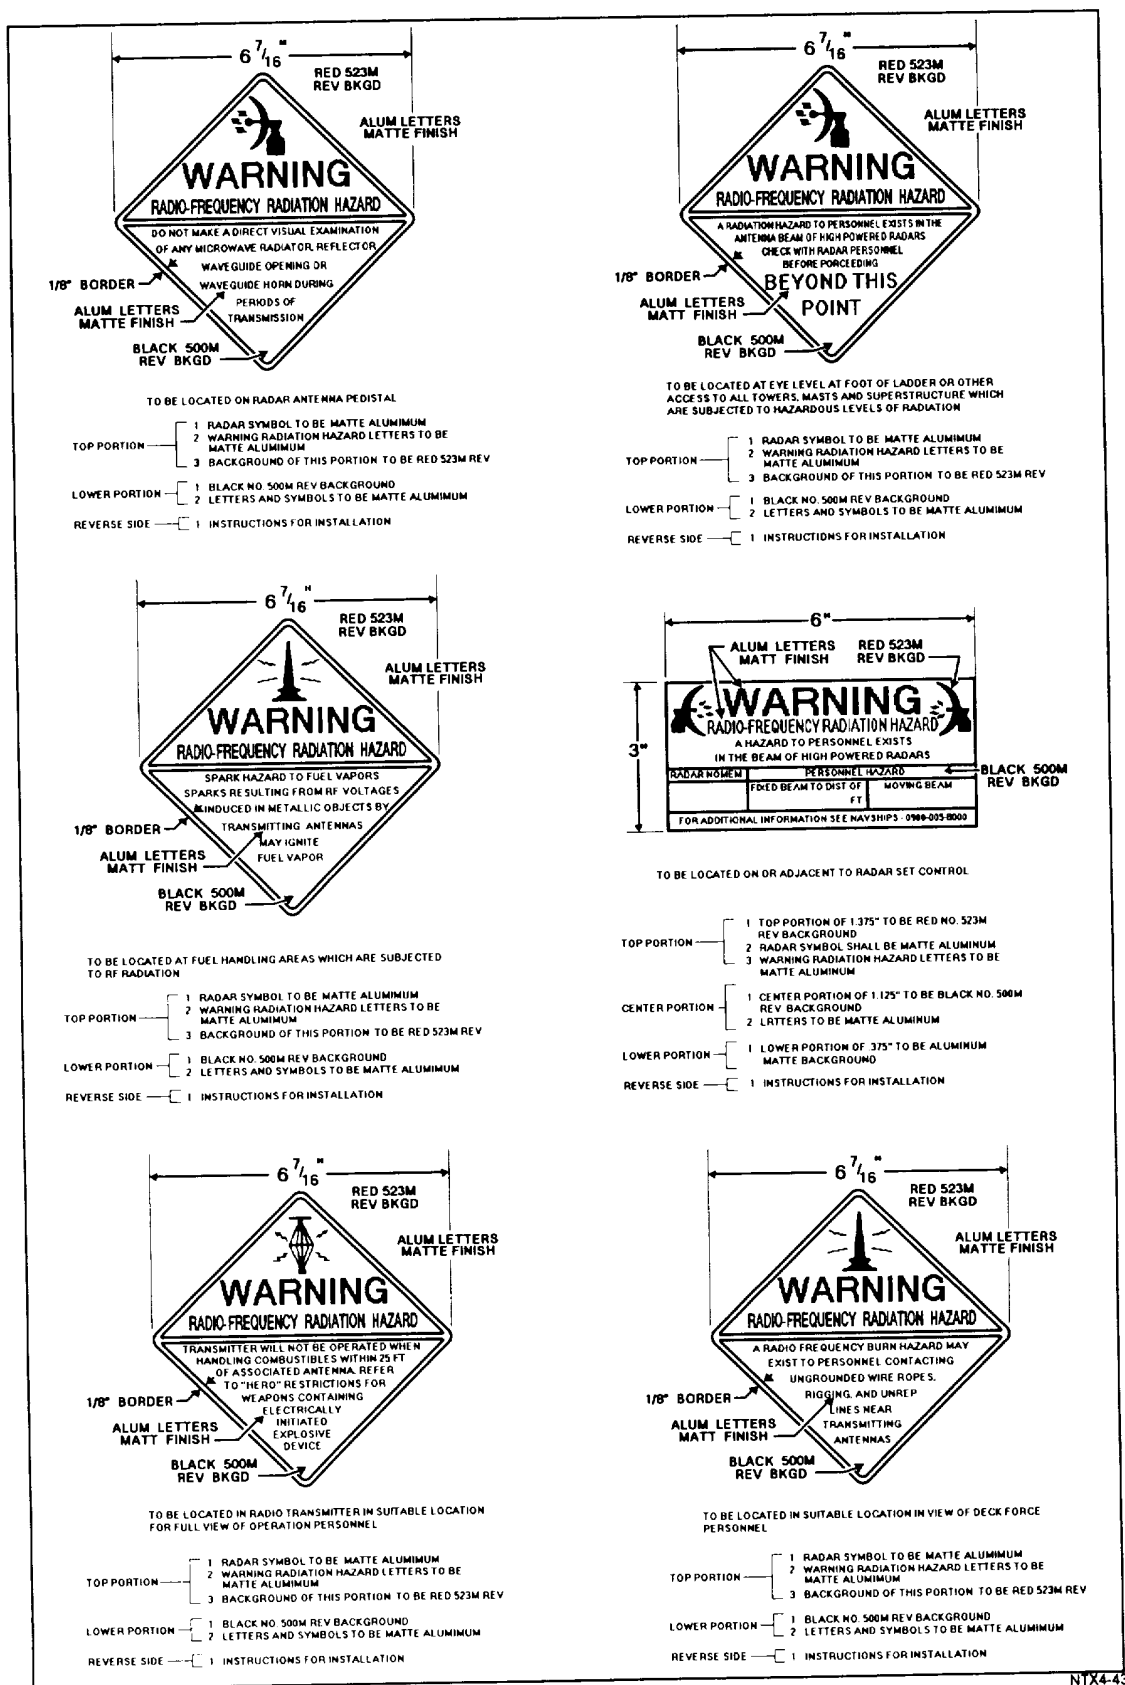

Figure 2-49.—Rf radiation warning signs
**ALWAYS** obey rf radiation warning signs and keep a safe distance from radiating antennas. The six types of warning signs for rf radiation hazards are shown in figure 2-49.